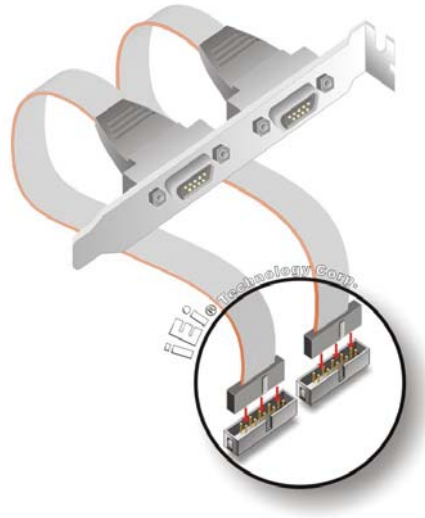

Figure 0-13: Dual RS-232 Cable Installation
Step 2: **Insert the cable connectors.** Insert one connector into each serial port box headers. See Figure 0-13. A key on the front of the cable connectors ensures the connector can only be installed in one direction.